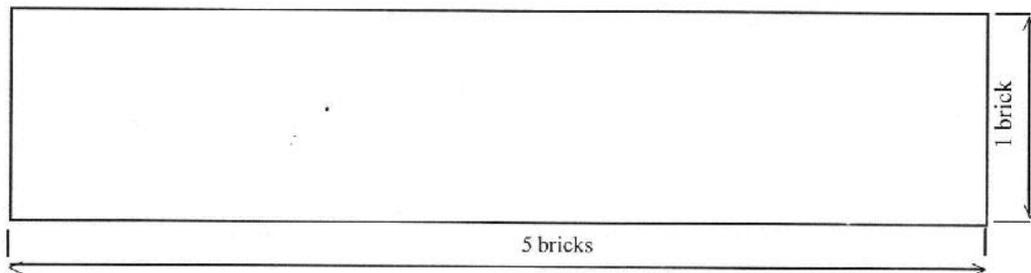

Fig. 2
- (b) **Fig. 2 shows the outline of a wall in English bond.**